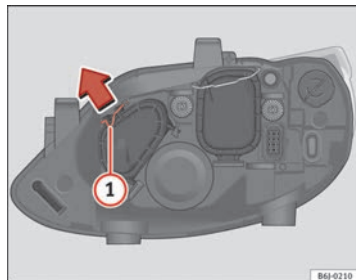

Fig. 150 Main beam headlights
- Move the loop ① in the direction of the arrow and remove the cover ⇒ Fig. 150.